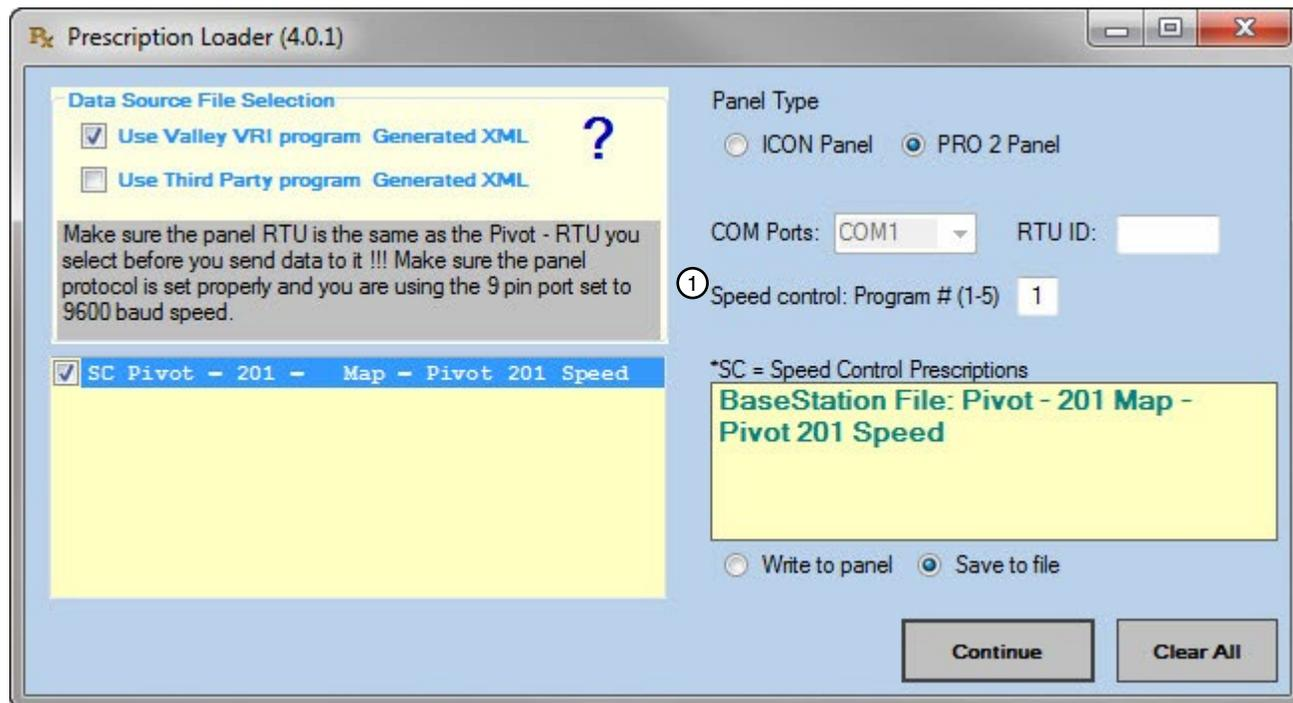

Figure 46-1 1. Speed Control Program Number
- Enter a Speed Control Program number. Up to 5 Speed control programs can be stored in a control panel. See Figure 46-1.